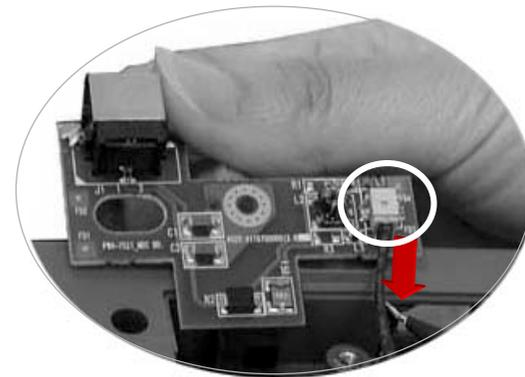

Figure 2-10
5. And then disconnect the cable from connector board . (figure 2-10)